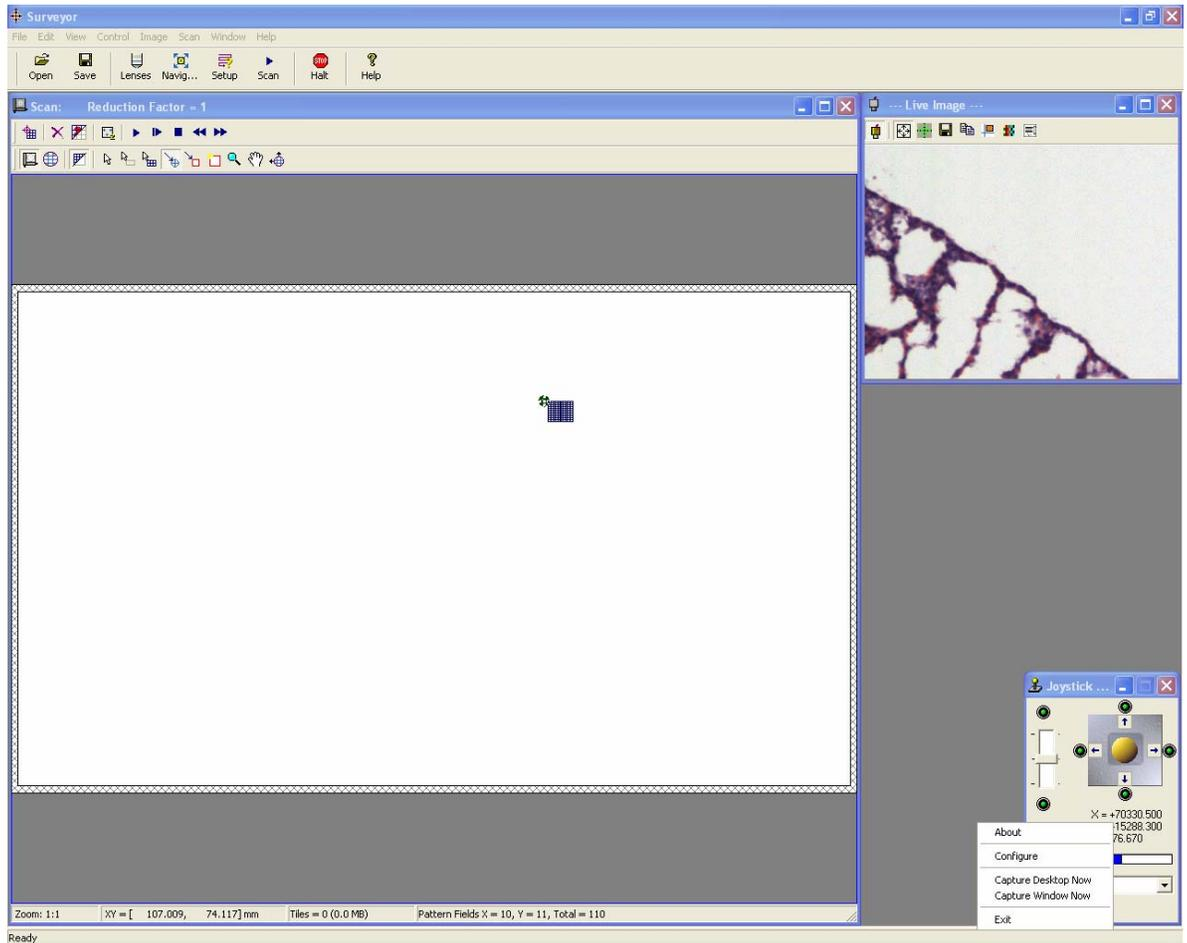

Fig 12
- Select the scan define tool and use it to draw a small area around the current position as shown in Fig 12 (below).